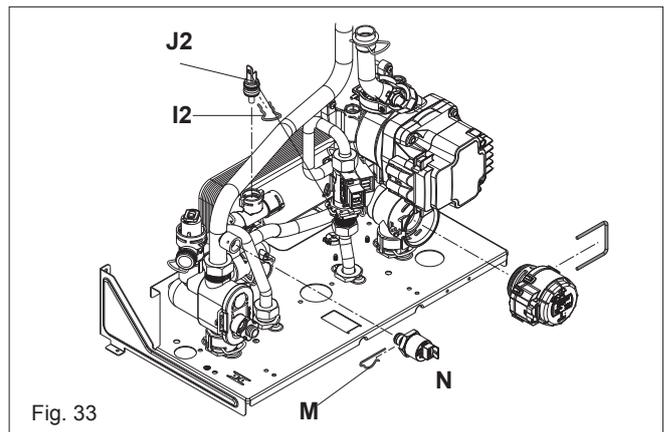

Fig. 33
7.9 WATER PRESSURE TRANSDUCER (FIG. 33)
7.21.4 DHW THERMISTOR (FIG. 33)